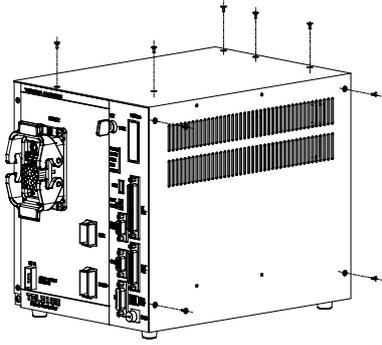

Fig. 4.4 Removing upper cover (TSL3100)
- c) For maintenance, the upper cover should be removed. (See Fig. 4.4.)